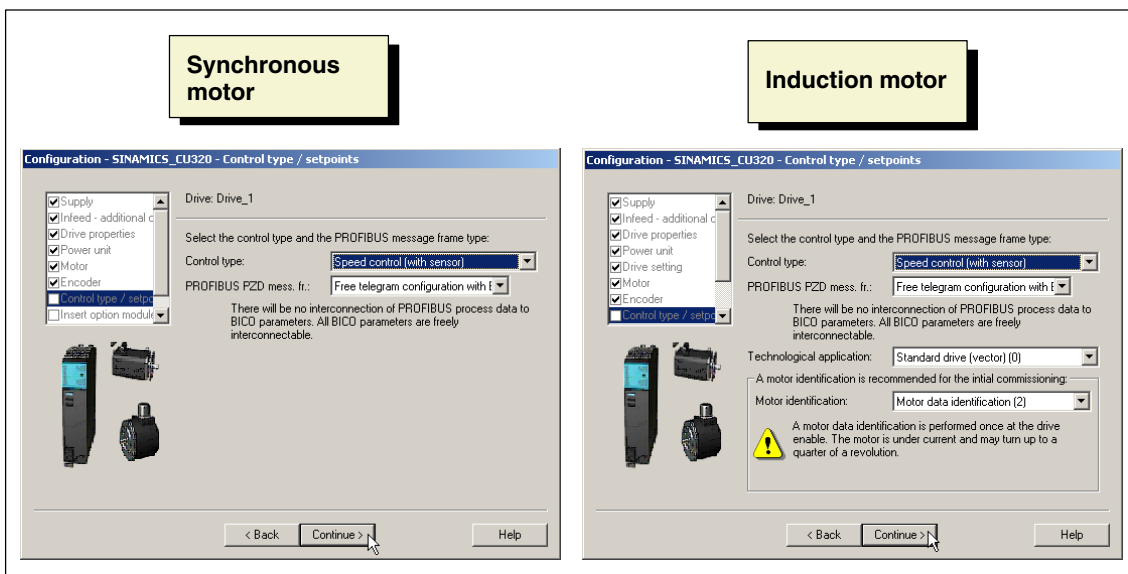

Fig. 3-22 Control mode/setpoints
17. Choose **Continue >** to choose the control mode/setpoints (see Fig. 3-22).
18. Choose the following settings (as shown in Fig. 3-22):